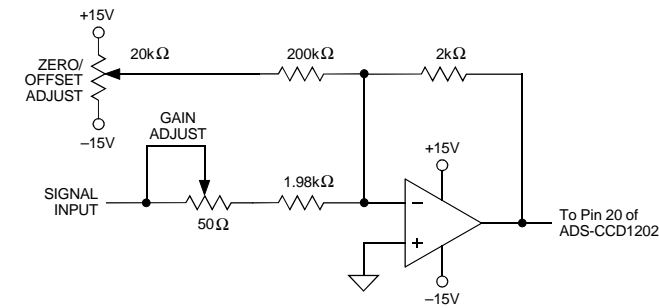

Figure 2. ADS-CCD1202 Calibration Circuit
Bypass all power supplies, as well as the REFERENCE OUTPUT (pin 21), to ground with 4.7µF tantalum capacitors in parallel with 0.1µF ceramic capacitors. Locate the bypass capacitors as close to the unit as possible. If the user-installed offset and gain adjusting circuit shown in Figure 2 is used, also locate it as close to the ADS-CCD1202 as possible.
- ADS-CCD1202 achieves its specified accuracies without external calibration. If required, the device's small initial offset and gain errors can be reduced to zero using the input circuit of Figure 2. When using this circuit, or any similar offset and gain-calibration hardware, make adjustments following warmup. To avoid interaction, always adjust offset before gain.
*(Refer to Figures 2 and 3)*
Any offset and/or gain calibration procedures should not be implemented until devices are fully warmed up. To avoid interaction, offset must be adjusted before gain. The ranges of adjustment for the circuit of Figure 2 are guaranteed to compensate for the ADS-CCD1202's initial accuracy errors and may not be able to compensate for additional system errors.
All fixed resistors in Figure 2 should be metal-film types, and multi-turn potentiometers should have TCR's of 100ppm/°C or less to minimize drift with temperature. In many applications, the CCD will require an offset-adjust (black balance) circuit near its output and also a gain stage, presumably with adjust capabilities, to match the output voltage of the CCD to the input range of the A/D. If one is performing a "system I/O calibration" (from light in to digital out), these circuits can be used to compensate for the relatively small initial offset and gain errors of the A/D. This would eliminate the need for the circuit shown in Figure 2.